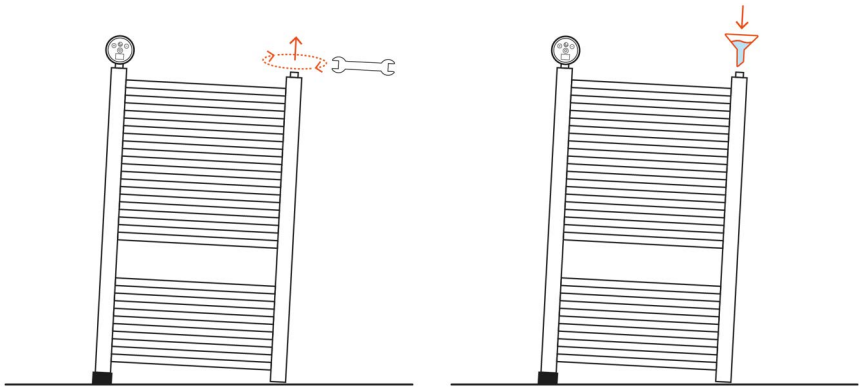
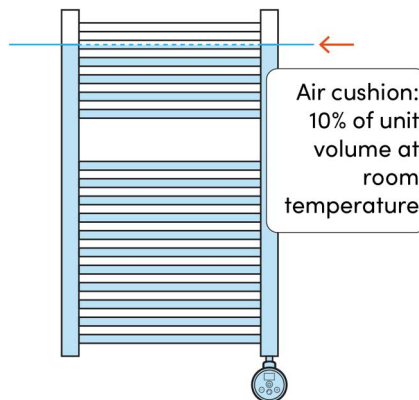

Figure 5 | Removing towel rail cap and using funnel to fill
Figure 6 | Air cushion requirement (image for illustrative purposes only)
9. Remove the cap and fill the towel rail to 90% of its volume with a suitable heating medium (**Figure 5, Figure 6**). This should be a glycol-based formulation approved by the towel rail manufacturer. Replace cap when done.